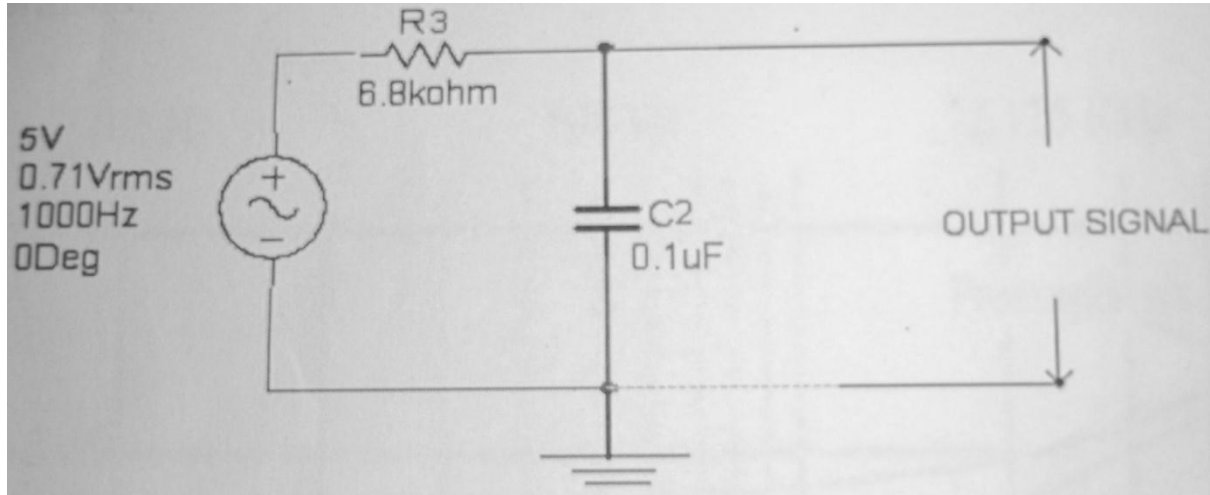

Fig: 2. De-emphasis Circuit
5. Repeat above steps 2 to 4 for de-emphasis circuit (shown in Fig: 2.) by applying the sinusoidal signal of 5V as input signal.